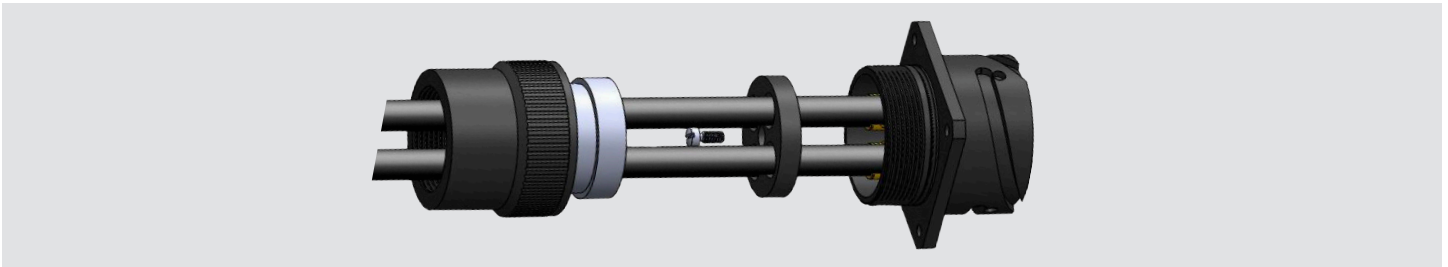

Figure 15
2. Slide the retainer into the receptacle shell and tighten it with screw. Figure 15.